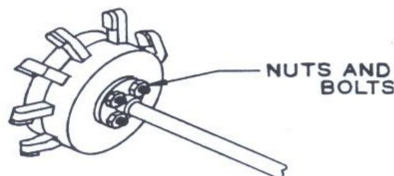

fig. 12
6. The cutter head is fastened to the mounting flange on the spindle with four 3/8-16 x 1-3/4" bolts. Be sure to check them frequently for tightness. (Figure 12)
1. Remove entire cutter head (see figure 12) by removing the four 3/8"-16 nuts and bolts.